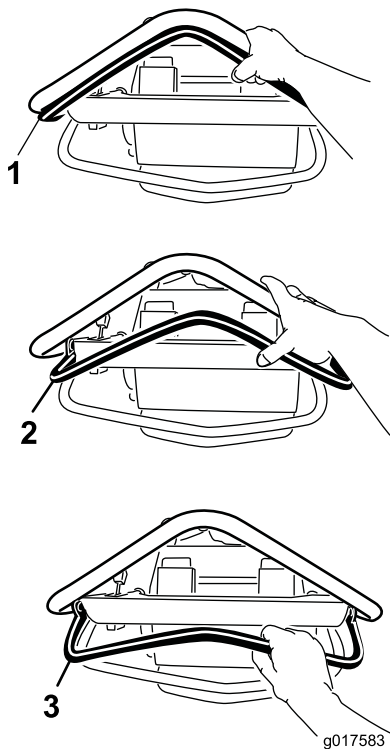

Figure 11
- To move forward, press the control lever forward (Figure 11). The further forward you push it, the faster the machine will travel.
- To move in reverse, pull the control lever rearward (Figure 11). The further rearward you pull it, the faster the machine will travel.
- To stop, release the control lever (Figure 11).